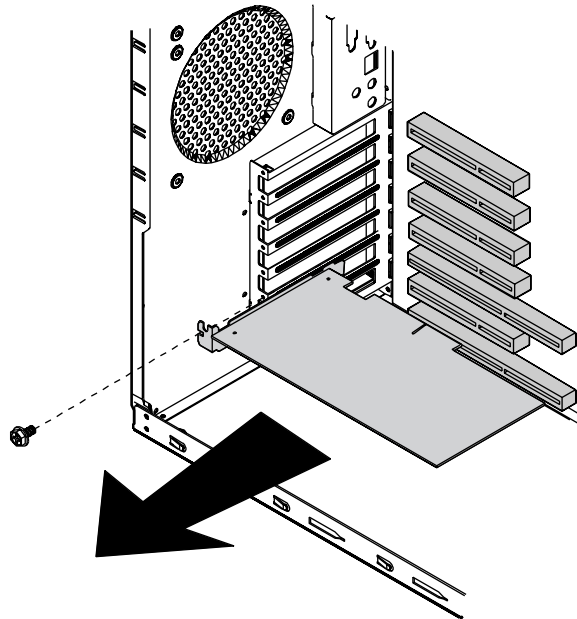

Figure 35: Removing the Expansion Card Screw
4. Remove the screw that secures the card and its bracket to the back panel of the server (see Figure 35).